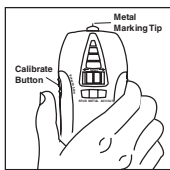

Fig. 6
- Place the unit flat against the surface to be scanned. (Fig. 6)
- Press the calibrate/activate button located on the side to activate the test. Continue to press and hold this button while sliding the unit across the surface. (Fig. 6)